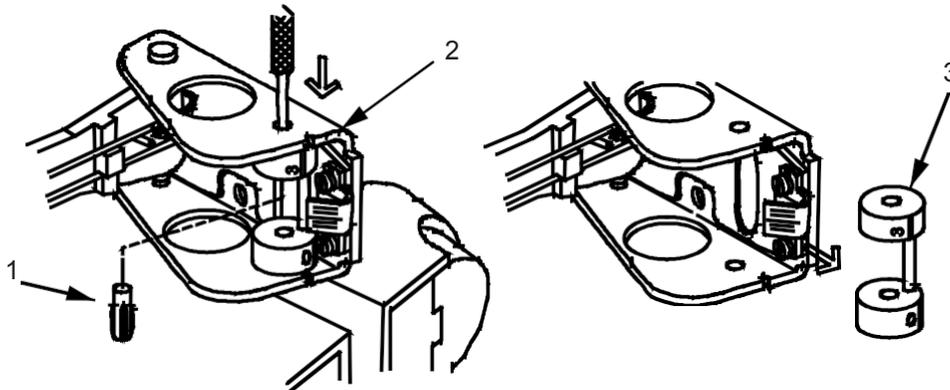

Figure 22. Elevator Assembly, Rear Sight Base, Shaft.
31. If elevator assembly (Figure 22, Item 3) is damaged, place rear sight base (Figure 22, Item 2) on vise with jaws slightly apart. Remove shaft (Figure 22, Item 1) and discard. Separate elevator assembly (Figure 22, Item 3) and replace.